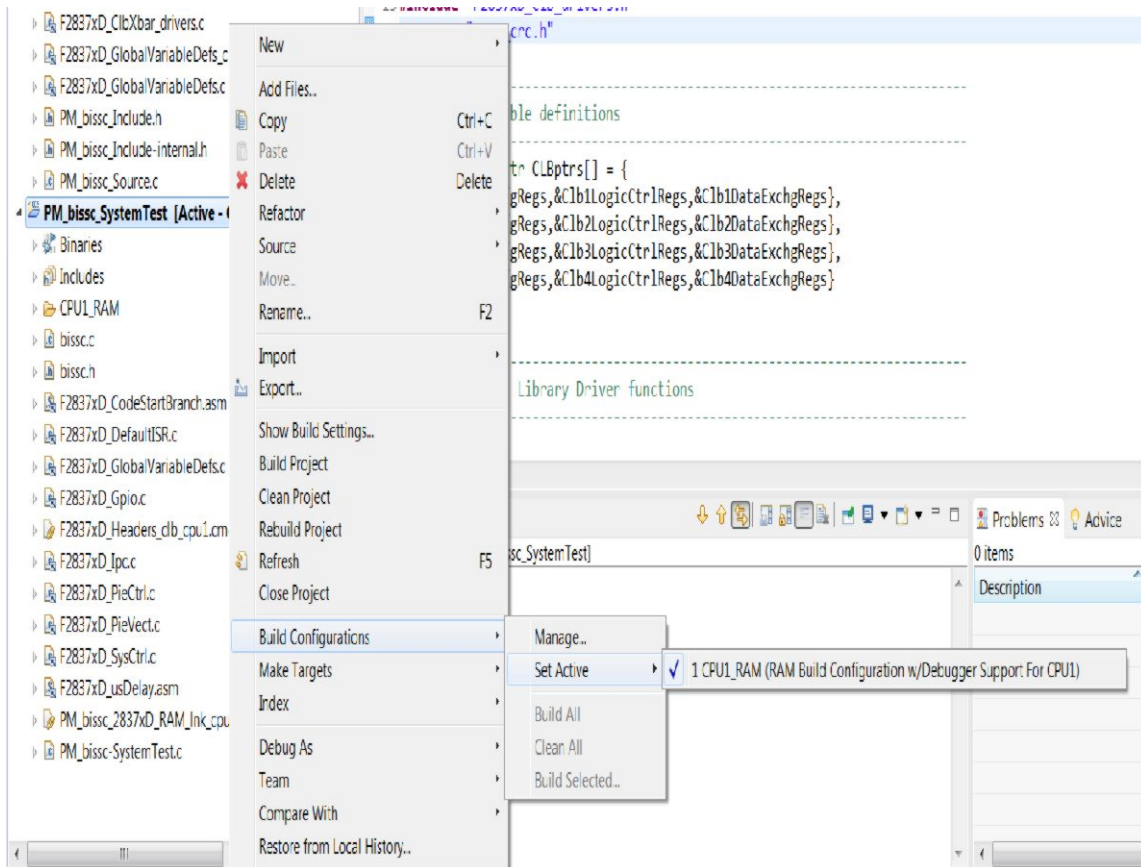

Figure 11. Selecting the F2837x_RAM Configuration
2. The project can be configured to create code and run in either flash or RAM. Select either of the two; however, for lab experiments use RAM configuration most of the time and move to the FLASH configuration for production. As shown in Figure 11, right-click on an individual project and select Active Build Configuration → CPU1_RAM configuration.